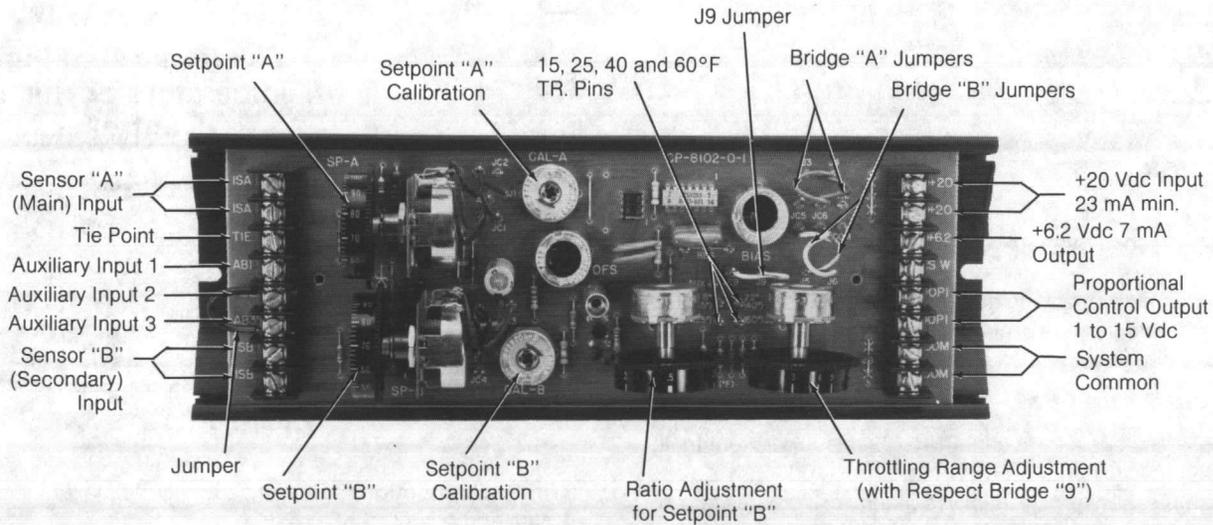

Figure 1. CP-8102
**CONTROL TERMINAL INPUTS** (See Figure 1)
**CONTROL TERMINAL OUTPUT** (See Figure 1)
**ADJUSTMENTS:** (See figure 1)
**ADJUSTMENT:** By dial .5 to 25:1. Ratio is the number of degrees change at Sensor "B" required to reset Setpoint "A" one (1) degree. Example: 25:1 means a 25°F (14°C) change at Sensor "B" will reset Setpoint "A" 1°F (.5°C).